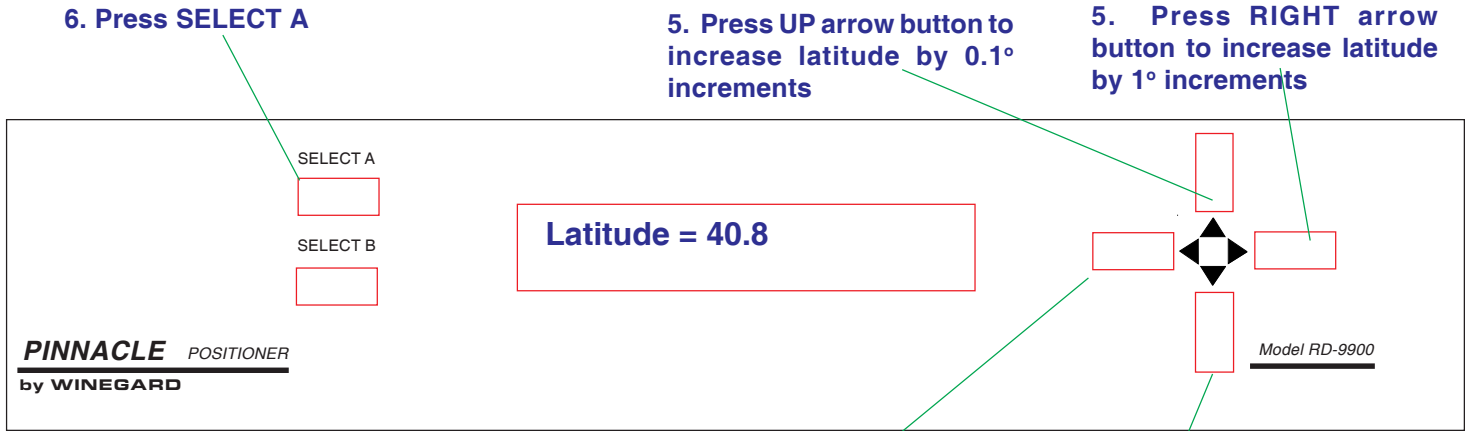

Figure 19
7. Press [ARROW BUTTONS] to display correct latitude, Figure 19.
8. Press [SELECT A] to enter latitude, Figure 19.